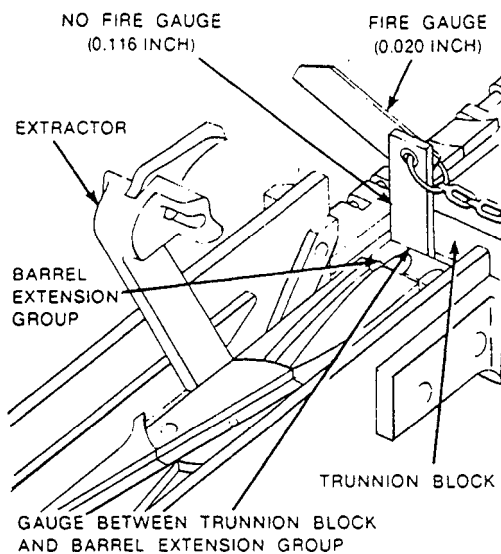

Figure 13-52.—Checking the timing with the NO-FIRE gauge installed.
8. Retract the recoiling parts enough to insert the NO-FIRE (.116 inch) gauge. Place it in the same location, between the barrel extension and the trunnion block (fig. 13-52).